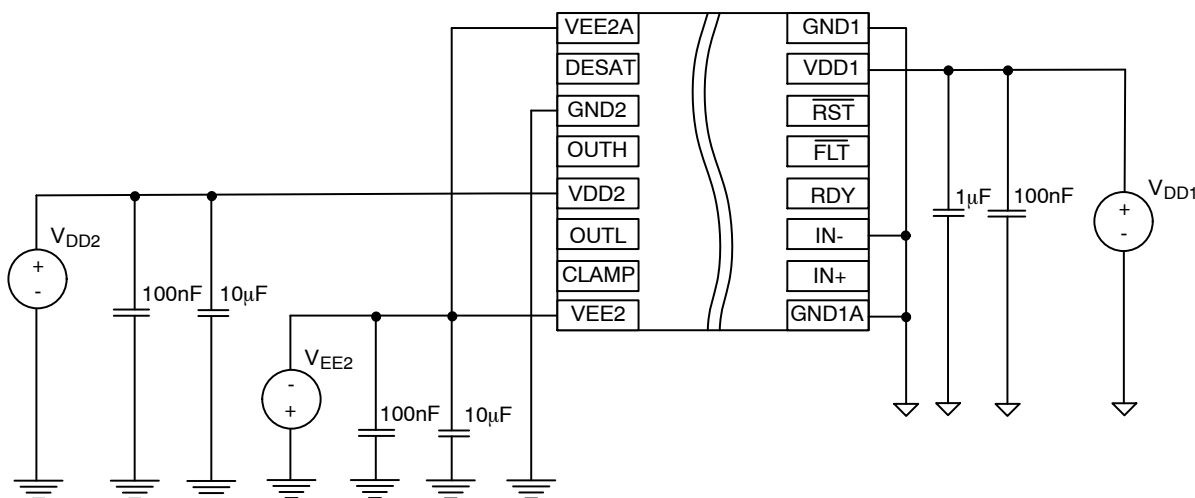

Figure 41. Bipolar Power Supply
- In bipolar power supply the driver is typically supplied with a positive voltage of 15 V at VDD2 and negative voltage -5 V at VEE2 (Figure 41). Negative power supply prevents a dynamic turn on throughout the internal power switch input capacitance.